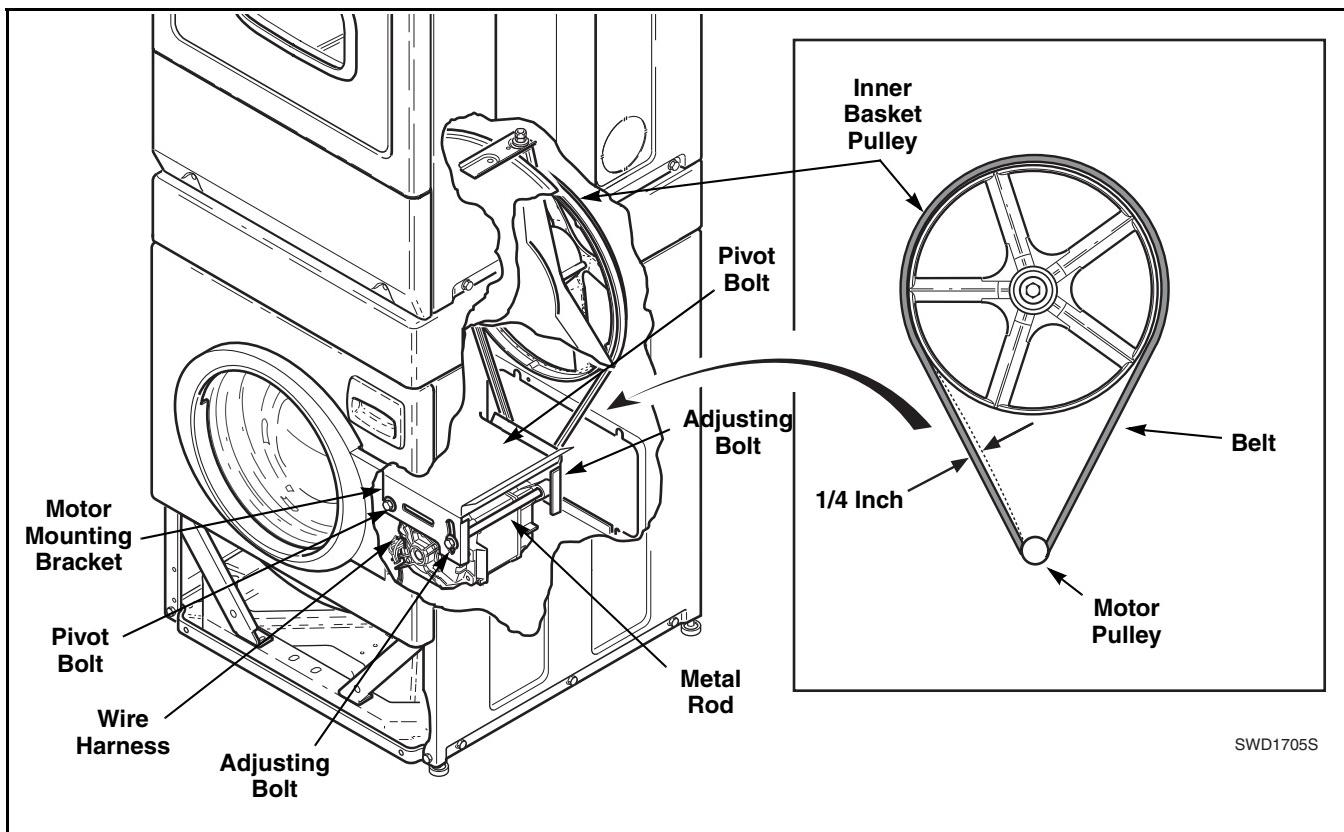

Figure 7
- b. Working through the access door opening, place a locking pliers on the metal rod and loosen the two adjusting bolts. Refer to *Figure 7*. Repeat procedure to loosen the two pivot bolts. Refer to *Figure 7*.
- c. Pull down on motor to increase belt tension. Use a Burroughs belt gauge to obtain proper tension. Proper belt tension is obtained when belt can be deflected approximately $\frac{1}{4}$ inch (6.35 mm) from normal position when moderate pressure 50 to 60 pounds (22.68 to 27.22 Kg) is applied to a point midway between pulleys. Refer to *Figure 7*.
- d. After proper belt tension has been obtained, tighten belt adjusting bolts firmly, then tighten pivot bolts. Refer to *Figure 7*.